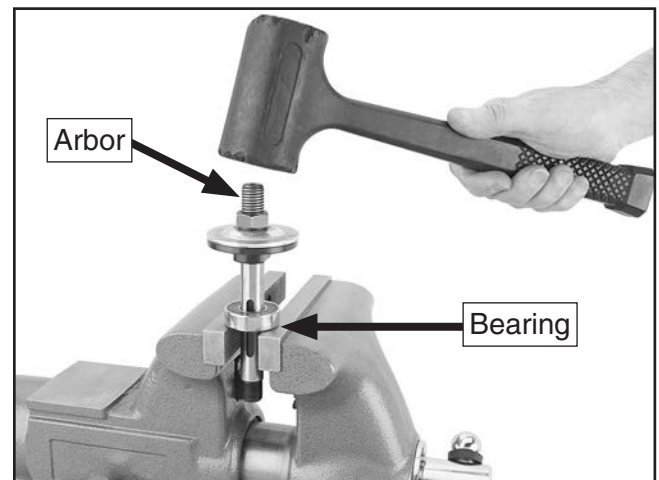

Figure 136. Seating arbor into new bearing.
19. Slide a new 6203-2RS ball bearing, part P1023RL100, onto the arbor shaft, then place the arbor between the vise teeth, as shown in **Figure 136**.
20. Using the rubber hammer, seat the arbor onto the bearing (see **Figure 136**), then remove it from the vise.